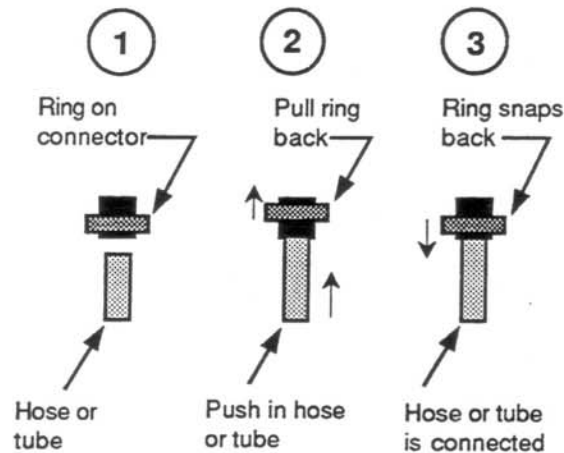

Fig. 19
6. Lift the filter pan cover, and connect the filter assembly to the white quick-disconnect fitting. Figure 19 shows how to use the quick-disconnect. Sprinkle 12 oz. of precoat powder onto the filter paper.